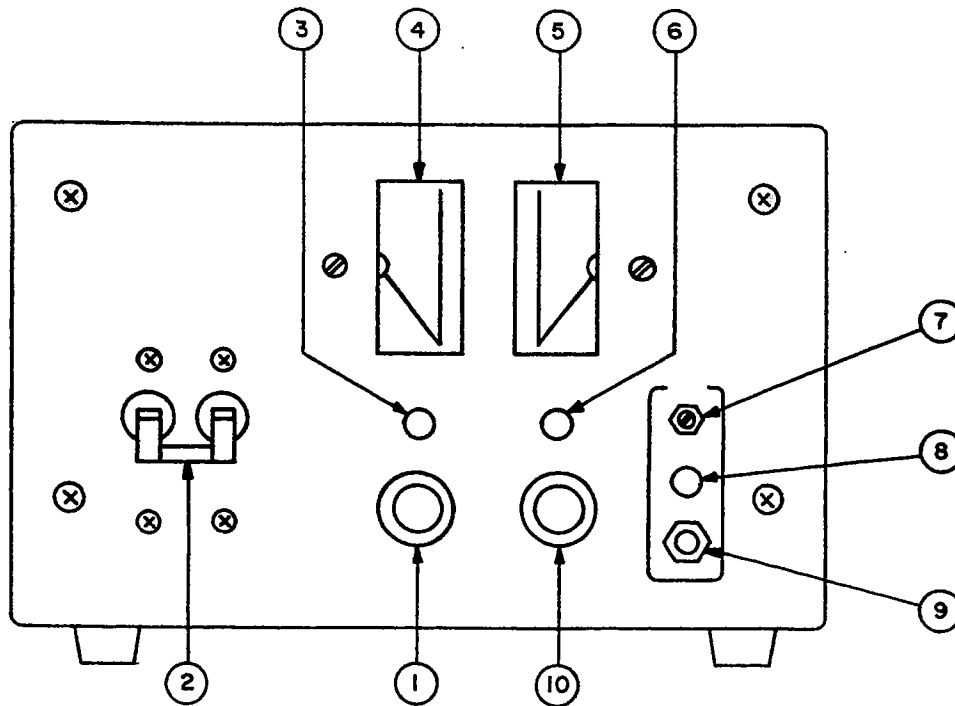
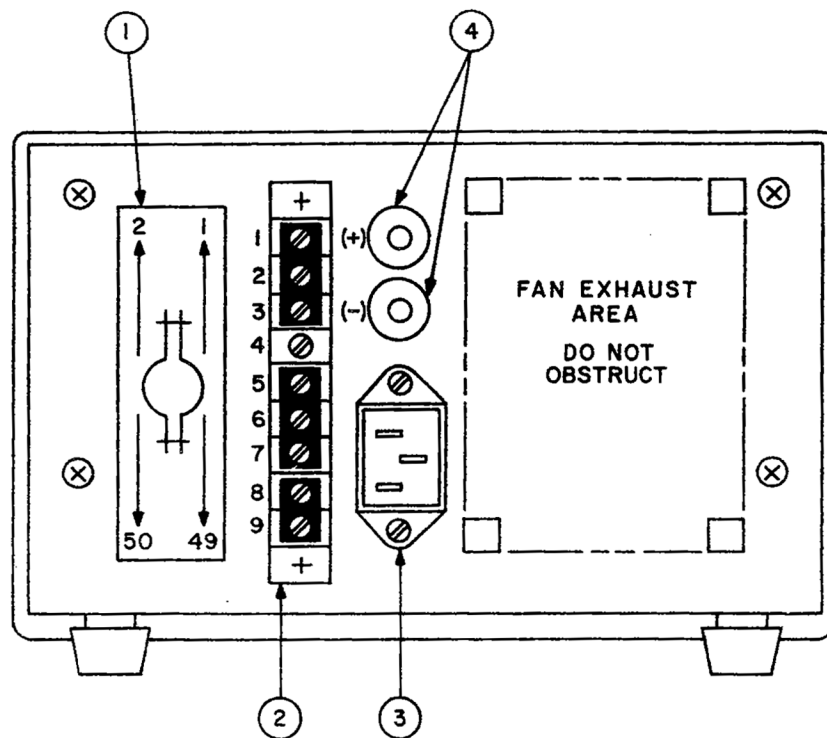

FIG. 2-2 CONTROL AND TERMINATIONS, ATE 1/2 RACK GROUP, FRONT.
FIG. 2-3 TERMINATIONS, ATE 1/2 RACK GROUP, REAR.
- a) FRONT PANEL: Refer to FIG. 2-2 and Table 2-2.
- b) REAR: Refer to FIG. 2-3 and Table 2-3.
- 2-9 A simple operating check after unpacking and before permanent installation is advisable to ascertain whether the power supply has suffered damage resulting from shipment. Refer to FIG. 2-2 and to FIG. 2-3 for the location of the operating controls and output terminals.
- To reset the adjusted crowbar point, press DISARM button again and advance VOLTAGE CONTROL clockwise. Note voltage at which the CROWBAR INDICATOR lights up. Readjust LEVEL control if necessary, by repeating step (2) and check again by repeating steps (3) and (4).
A resistor/capacitor network is connected from the negative monitor terminal to the metal chassis of the power supply. If this internal network is *not* desired, the connection to the chassis can be opened by removing the link (8)-(9) on TB201 (See FIG. 2-3).